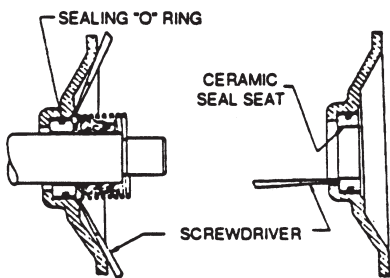

FIGURE 1
2. The impeller is keyed on the shaft. Remove impeller screw, turn counter-clockwise, and slide impeller off of shaft. NOTE: Be careful not to damage gaskets and washer. It is not necessary to remove the key. Carefully remove the rotating parts of the seal by prying up on the sealing washer with two screwdrivers. (Figure 1)